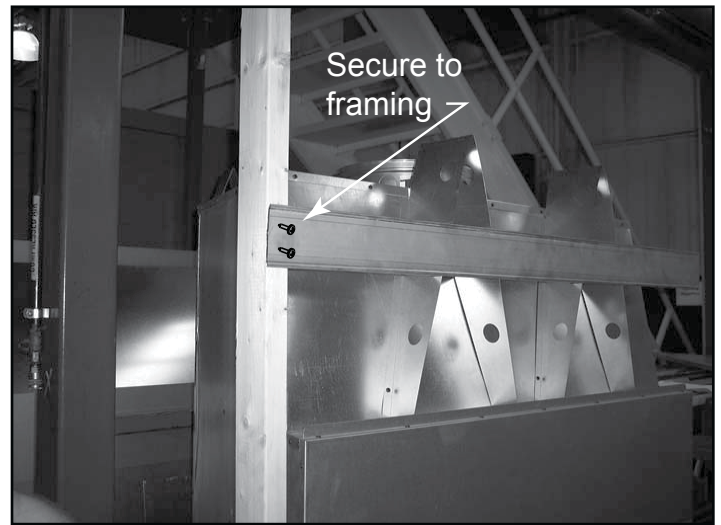
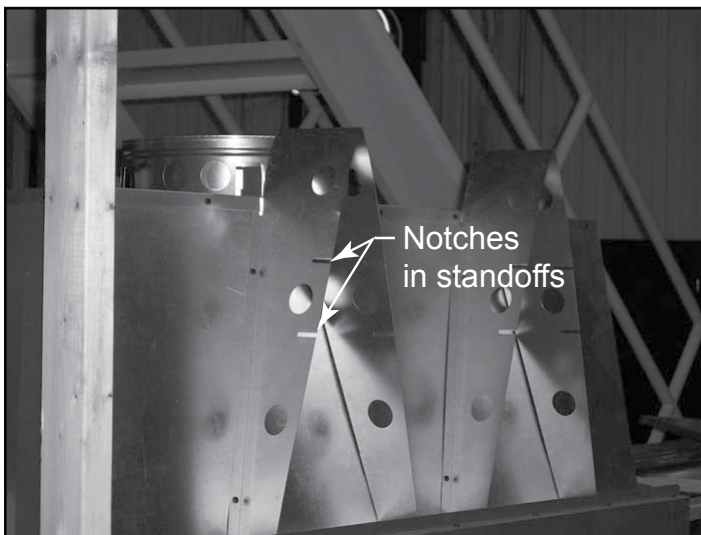

Figure 12.14 Secure to Framing
Figure 12.13 Notch in Standoffs
- Place the track into the notches (shown in Figure 12.13) on the front standoffs and secure to the framing on both sides of the fireplace (Figure 12.14).